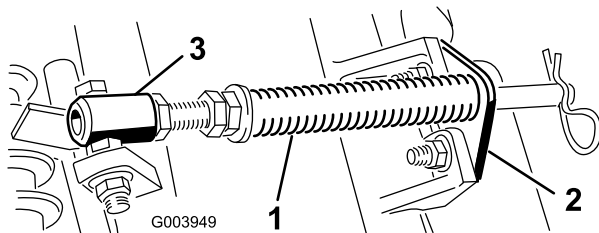

Figure 1
- A. Remove the 2 carriage bolts and nuts securing the rod bracket to the cutting unit tabs (Figure 1).
- B. Remove the flange nut securing the spring tube capscrew to the carrier frame tab (Figure 1) Remove the assembly.